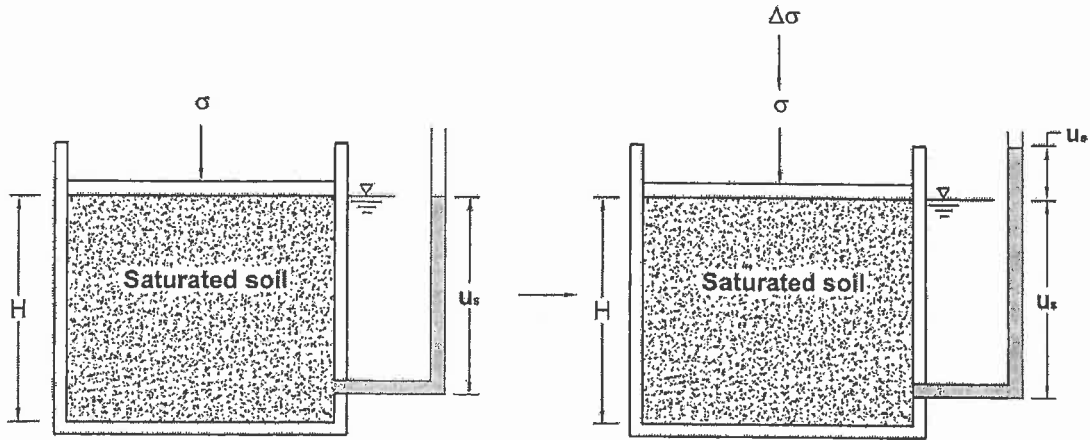

Figure 1
a. A saturated soil (i.e.,  $S = 100\%$ ) in a container that is subjected to a total stress,  $\sigma$  is shown in **Figure 1**. The level of water in a standpipe is the same as the surface of the soil (i.e. hydrostatic pore-water pressure). What will be the change in effective stress if an additional stress,  $\Delta\sigma$  is applied on top of the total stress  $\sigma$  under undrained conditions? Briefly describe the reason (Note:  $u_s$  = hydrostatic pore-water pressure and  $u_e$  = excess pore-water pressure).